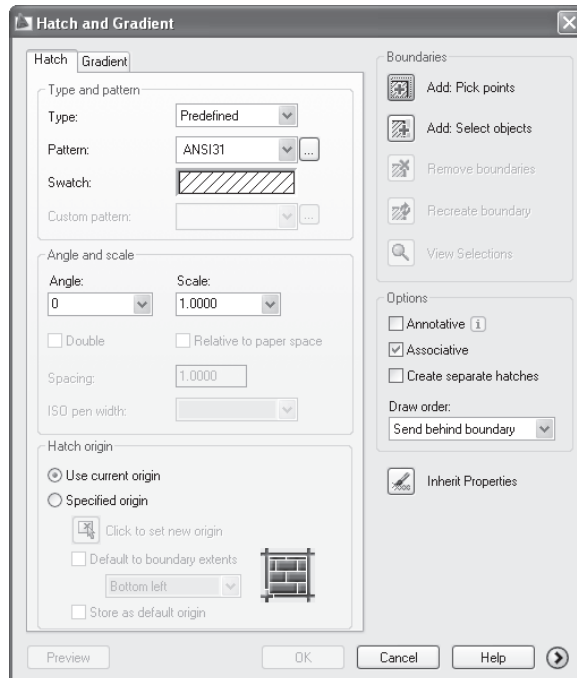

Figure 11.2
1. Click the Hatch tool in the Home tab's Draw panel or type **H** to open the Hatch and Gradient dialog box, as shown in Figure 11.2.